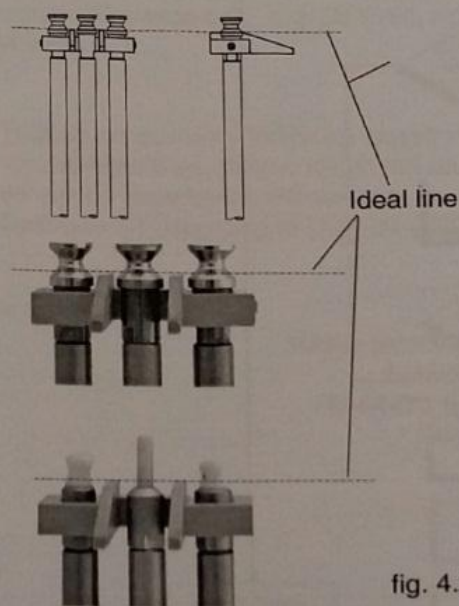

fig. 4.2k
- Push the filament guide upwards far enough to ensure that the rollers do not rub against the filament guide and that the process material can slide unhindered from the filament guide into the roller grooves (fig. 4.2k ideal line).